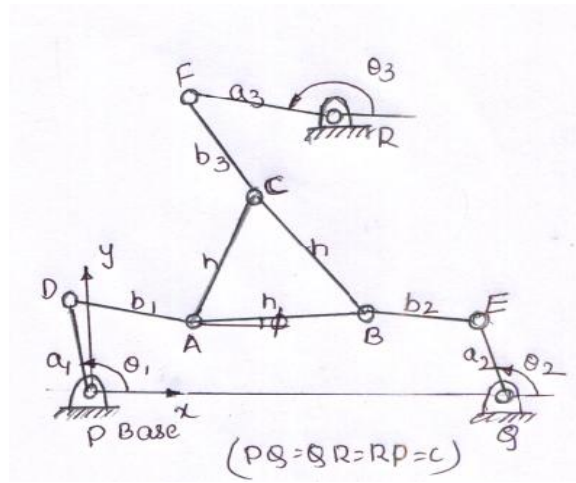

FIG. 4
- Explain how the possible manipulator postures corresponding to given end-effeter location of planar 3-DOF, 3RRR parallel manipulator shown in fig.4 can be determined. (12 M)